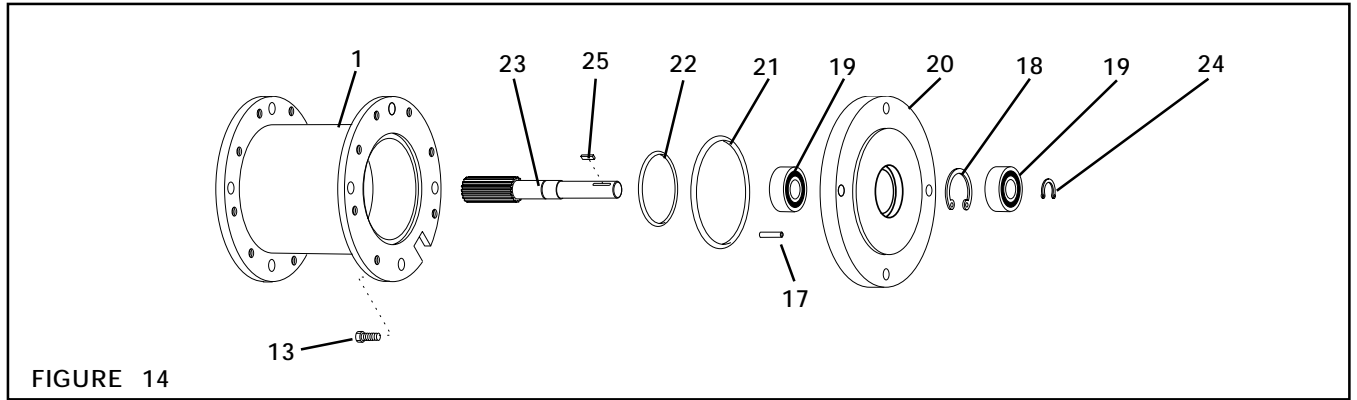

FIGURE 14
1. Remove the Key (Item 25) (See Figure 14).
2. Remove the Retaining Ring (Item 24) (See Figures 14 and 15).
3. Press the Stub Shaft (Item 23) out of the Male Pilot (Item 20) and Bearings (Item 19) (See Figures 14 and 15).
4. Press the Bearing (Item 19) that is still in the Male Pilot (Item 20) out of the Male Pilot (See Figures 14 and 15).
5. Using a bearing puller, remove the second Bearing (Item 19) from the Stub Shaft (Item 23) (See Figures 14 and 15).
6. Supporting the Male Pilot and pressing on the outer bearing race, press one new Bearing (Item 19) into the Male Pilot until it is seated against the Retaining Ring (Item 18) inside the Male Pilot (See Figures 14 and 15).
7. Support the inner race of the bearing pressed into the Male Pilot in Step 6 and press the Stub Shaft (Item 23) into the Bearing (Item 19) and Male Pilot (Item 20) (See Figures 14 and 15).
8. Pressing on both the inner and outer races, press the second Bearing (Item 19) onto the Stub Shaft (Item 23) and into the Male Pilot (Item 20) (See Figures 14 and 15).
9. Install the Retaining Ring (Item 24) (See Figures 14 and 15).
10. Remove the O-rings Seals (Items 21 and 22) (See Figure 14).
13. Coat the new O-ring Seals (Item 21 and 22) with fresh O-ring lubricant (See Figures 14 and 15).
17. Apply a drop of Loctite® 242 to the threads of the seven Hex. Head Cap Screws (Item 13) (See Figures 14 and 15).
18. Using the seven Hex. Head Cap Screws (Item 13), secure the Male Pilot to the Housing (See Figure 14).
20. **Non-locking key units only:** apply a drop of Loctite® 242 to the Key (Item 25) (See Figure 14).
21. Press the Key (Item 25) into the Stub Shaft (Item 23) (See Figure 14).